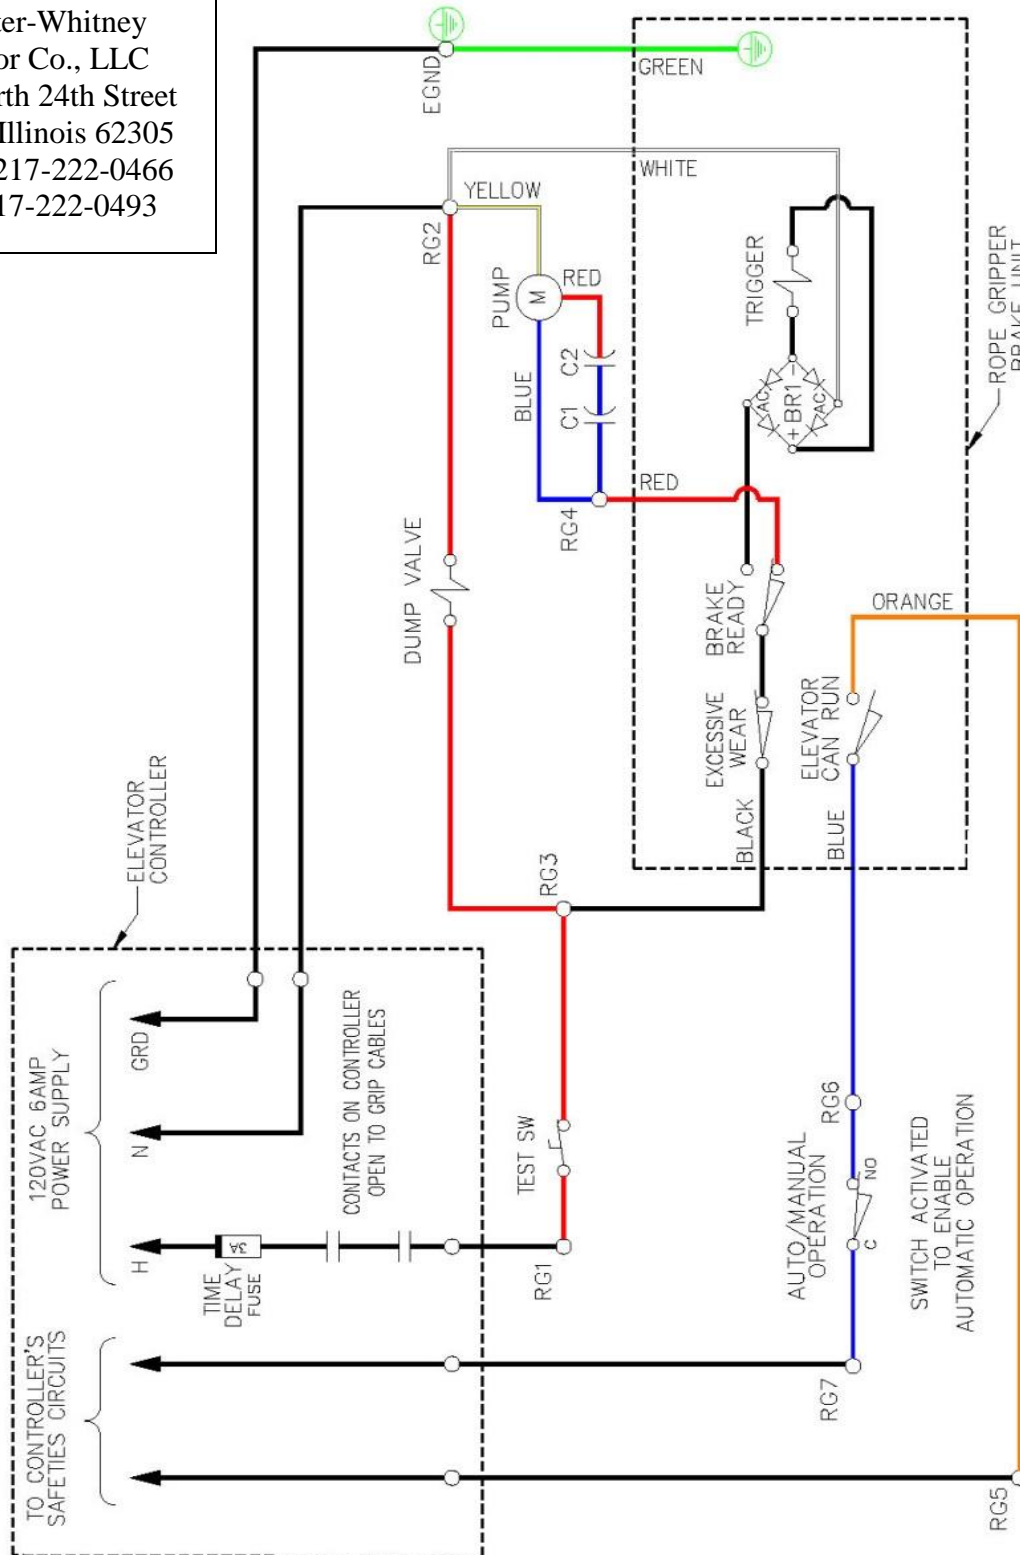

Figure 10: Rope Gripper® Electrical Schematic
3. ELECTRICAL CONNECTION VERIFICATION – (see Figure 10) The wiring of the controls to the pump unit should be as per the control manufacturers’ diagrams, with wires from the control to terminals RG1, RG2, RG5, RG7 and ground terminal EGND. Wires from the Gripper® to the pump unit are color coded and should be checked and correctly wired as: